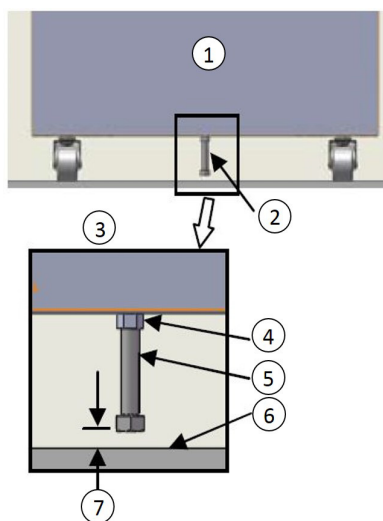

Figure 2. Bolt Location
- b. Unscrew 1/2" bolt until there is 1/2" clearance between floor and head of bolt as shown in *Figure 2* below.